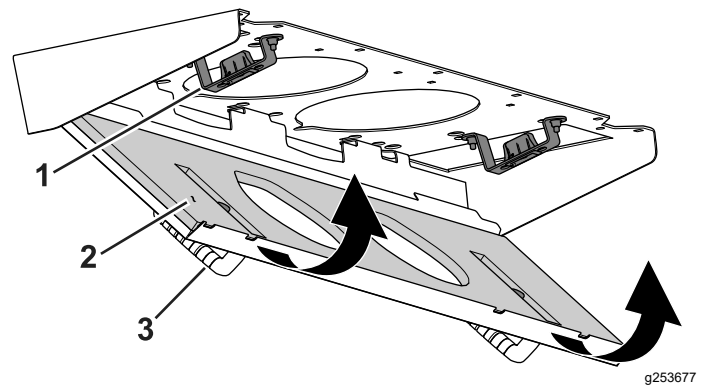

Figure 127
4. Rotate the filter screen around the tabs until the latch locks into the latch-mount assembly (Figure 127).